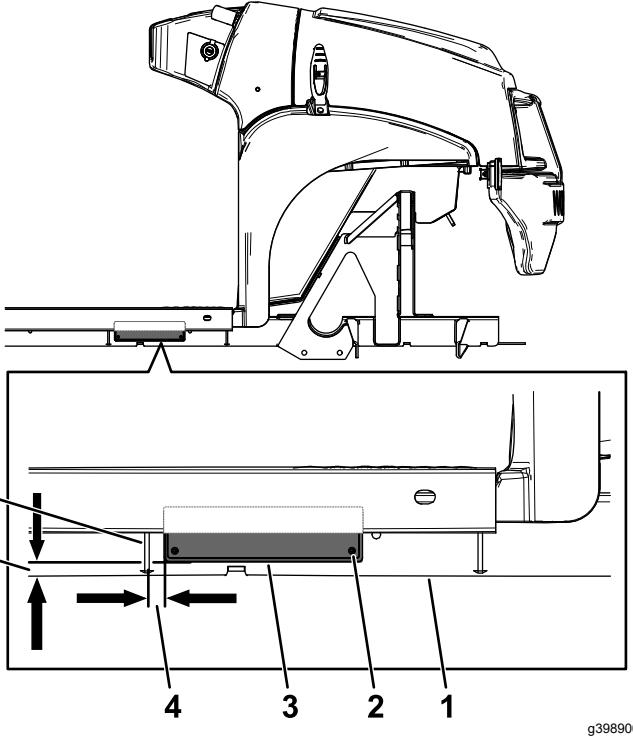

Figure 6
1. Install the serial plate using 4 pop rivets (3 x 10 mm) in the location shown in Figure 6.